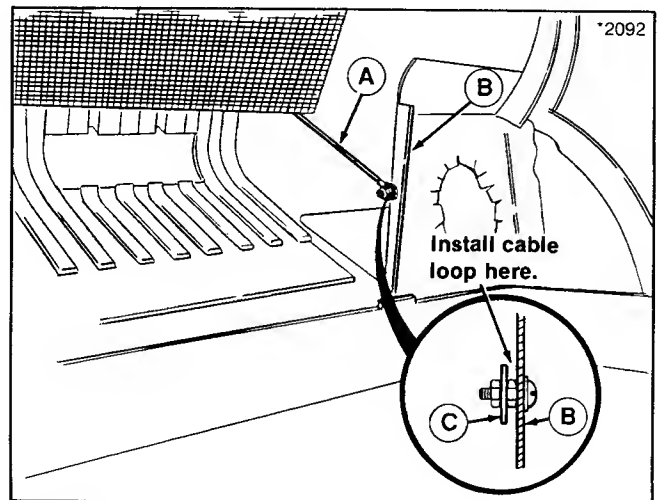

Figure 8.
11. Open cover and fasten cable (A, figure 8) to tube support (B) to prevent cover from going overcenter when opened. Loop end of cable fits over washer (C).